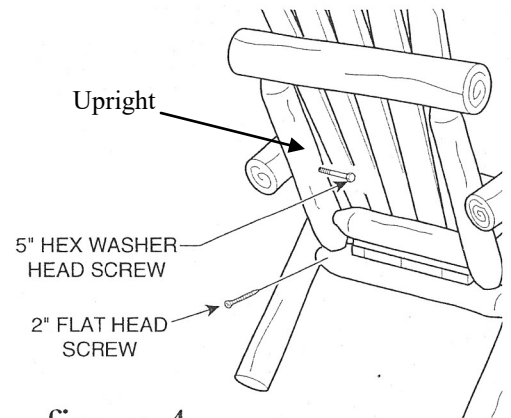
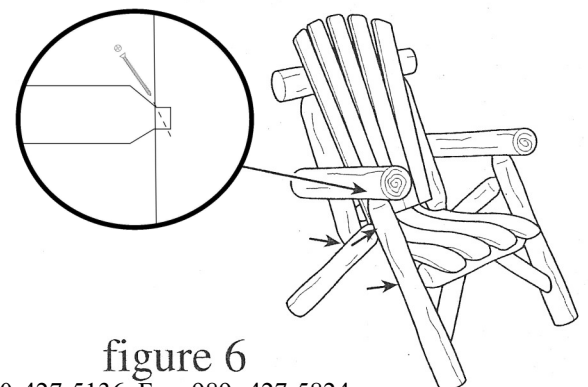

figure 4
figure 6
STEP 4 Set chair in upright position on a level surface and when legs are in proper position, bring ARM in against UPRIGHT. Tighten the preinstalled lag screws into the pilot hole in the arm with a wrench or socket. Secure doweled joints in place with screws perpendicular to the doweled ends as shown in figure 4 and figure 6. Repeat procedure for other side.
STEP 6 Set unit on a level surface and tighten down all lag screws firmly to secure unit. Secure all dowel joints in place with screws perpendicular to the doweled end as shown in figure 6.